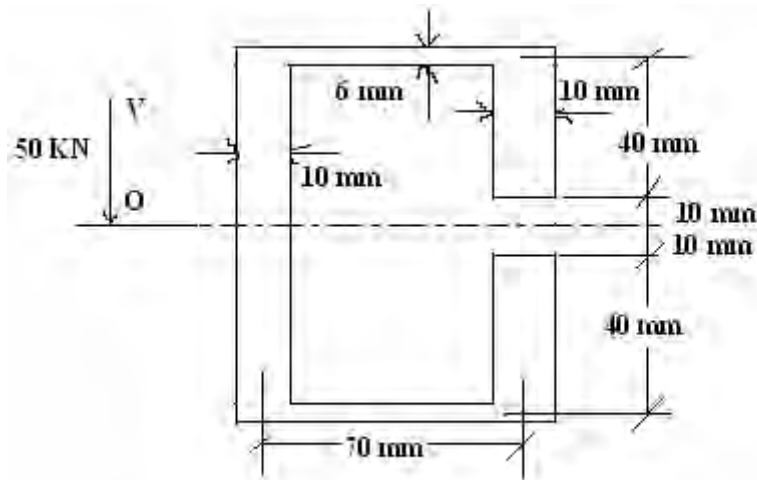

Figure 4:
4. A lipped channel dimensions and loading conditions as shown in figure 4, find out the shear centre. [16]